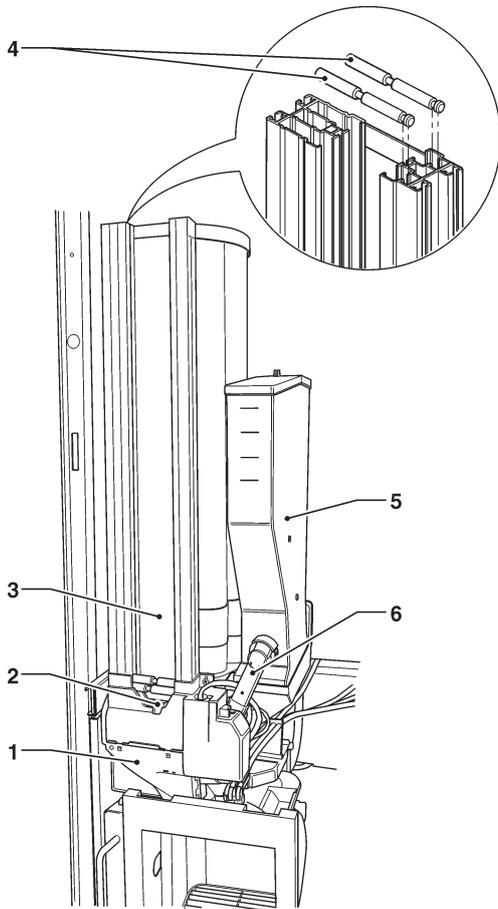

Fig. 8
- Remove the external and internal weights for stirrers by extracting them from above (see fig. 8).